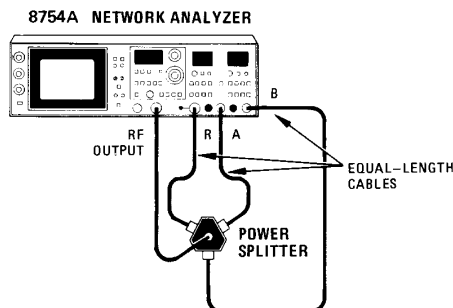

Figure 4-22. Phase Display Accuracy Test Setup
1. Connect equipment as shown in Figure 4-22.
- SWEEP WIDTH MHz . . . . . 0 (CW)